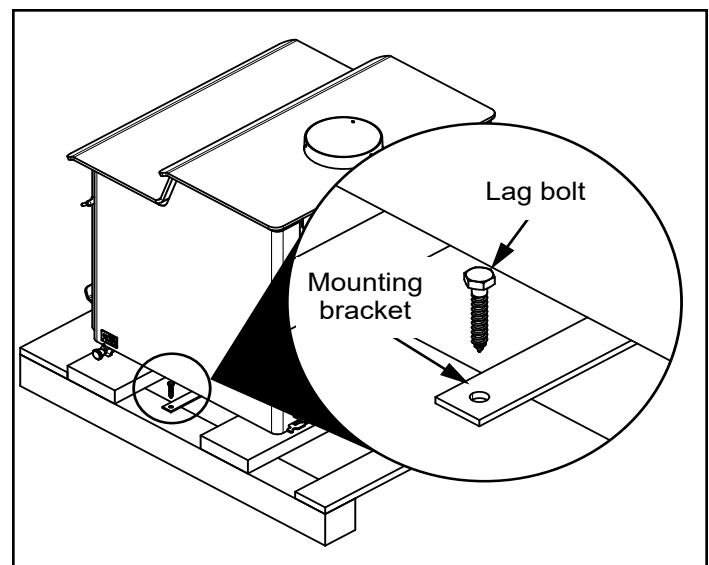

Figure 5.1
2. Using 7/16 inch socket or wrench, remove and discard the two lag bolts from mounting brackets; one on each side, that is attaching the appliance to the pallet (**Figure 5.1**).